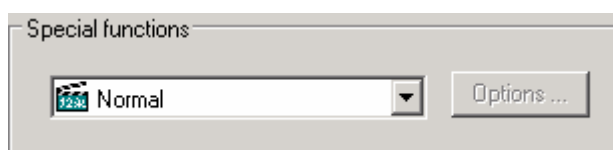

Fig. 84 Special functions input field on the Alarm output tab
2. Select a special function in the **Special functions** list box (see Fig. 84).